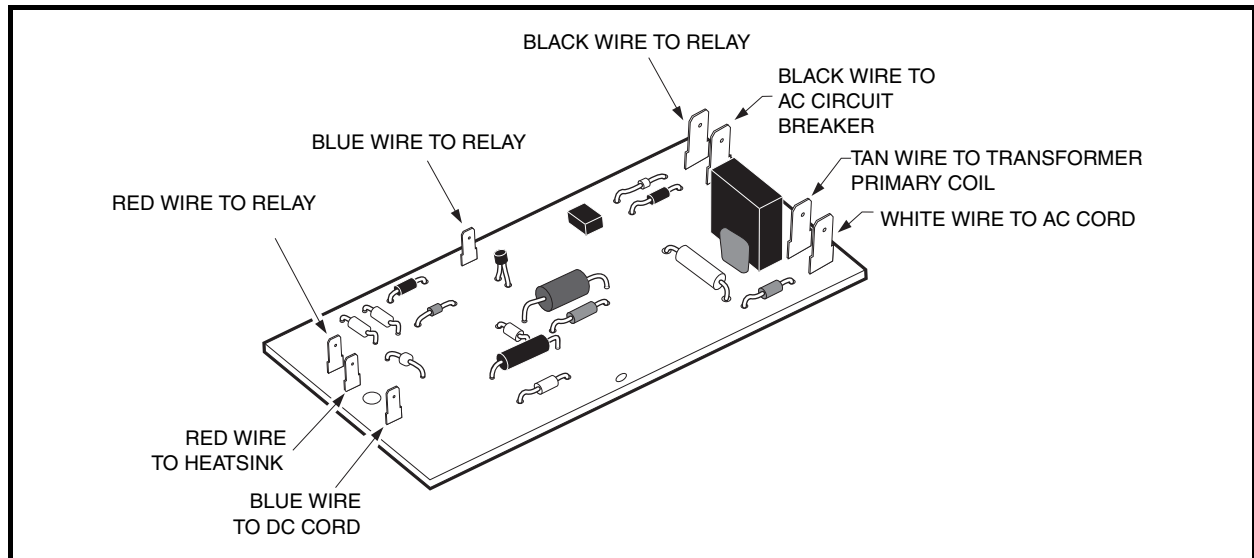

Figure 4-11 Control Board
- Disconnect tan wire from transformer primary coil at terminal on control board (**Figure 4-11, Page 4-13**). **See following DANGER.**